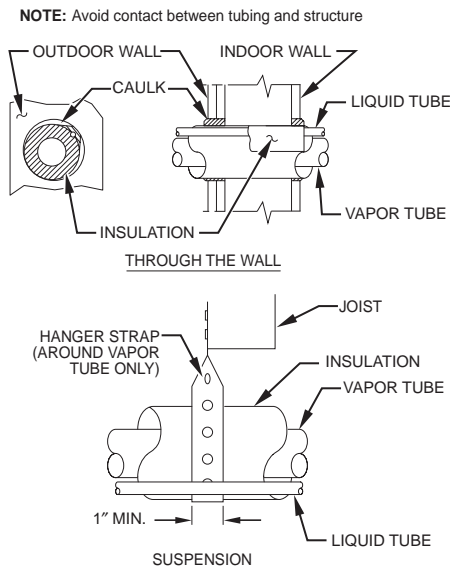

Fig. 2—Connecting Tubing Installation
4. When passing refrigerant tubes through the wall, seal opening with RTV or other pliable silicon-based caulk. (See Fig. 2.)
6. Do not suspend refrigerant tubing from joists and studs with a rigid wire or strap which comes in direct contact with tubing. (See Fig. 2.)
8. When necessary, use hanger straps which are 1 in. wide and conform to shape of tubing insulation. (See Fig. 2.)